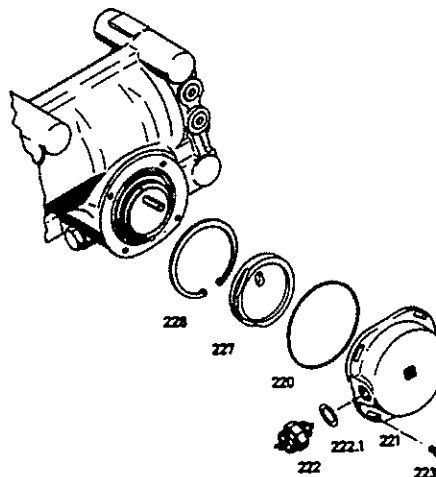

Fig.44
Insert cam disc (227) in housing cover (221) so that the cam ways point towards switch (222) (*Fig.44*).